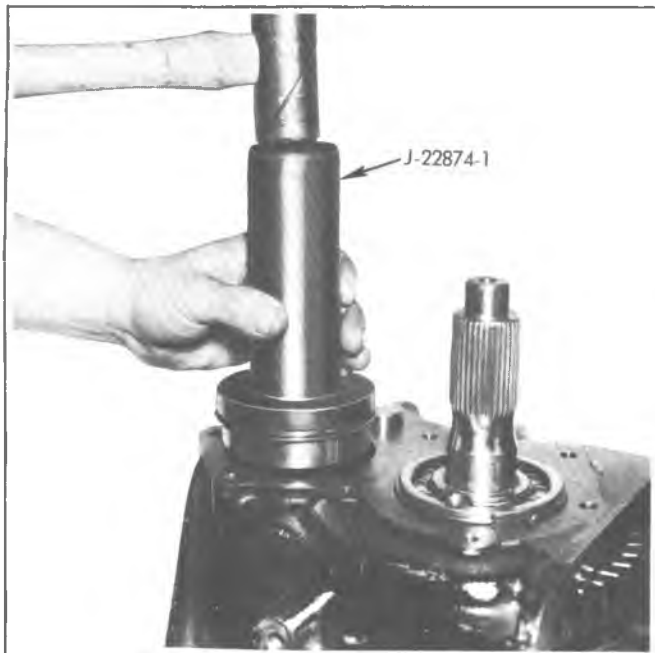

Fig. 7B-25L—Installing Counter gear Rear Bearing
8. Install appropriate tool in countergear front bearing opening in case to support countergear and rotate case onto front end. (Fig. 7B-24L).